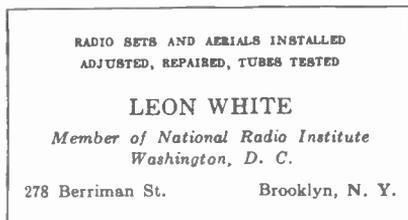
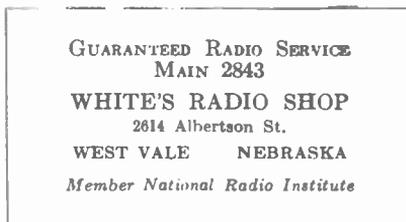

FIG. 2A
FIG. 2B
If a check for surface defects or effect-to-cause reasoning fails to reveal the defect, resort to a stage-by-stage elimination method. This is identical to that given for hum, except that noise is your guide. When the defective stage is isolated, check each part and connection with an ohmmeter. Transformers can be checked by breaking into the circuit with headphones (Figs. 2A and 2B), listening while the set is on. If noise is heard in both the secondary and primary circuits, the trouble is not in the transformer; if noise is heard only in the secondary stage, the transformer is at fault.
**Power Switches.**—The switch that turns on the main power supply is usually of the rotary type as shown in Fig. 2A, or the toggle type as shown in Fig. 2B. Should these devices become mechanically stiff drop a little oil in the shaft bearing or the ball pivot. Don't try to repair them as they are inexpensive and easily obtained. As a matter of fact, they are usually made so that you have to destroy them to get inside. There are a number of large switches, occasionally used in receivers,
What you can do is purely a matter that you must decide. In a few more lessons you will be able to do a lot of jobs and I suggest that you prepare a business card with the future in mind. For example, Fig. 2A shows a simple business card that you, as a beginner, can very well use. You will be able to do all the things mentioned shortly. Be sure to include your phone number if you have a telephone. Figure 2B shows a variation of 2A. The word *Shop* lends dignity even though you do